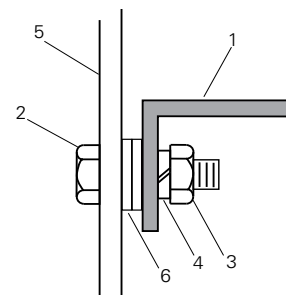

Figure 21. Hardware and spacer location for vertical control strap (Substation Frame Accessory KA89WV11).
9. Fasten the vertical strap with two lockwashers (Item 4), and two hex nuts (Item 3) as shown in Figure 21.